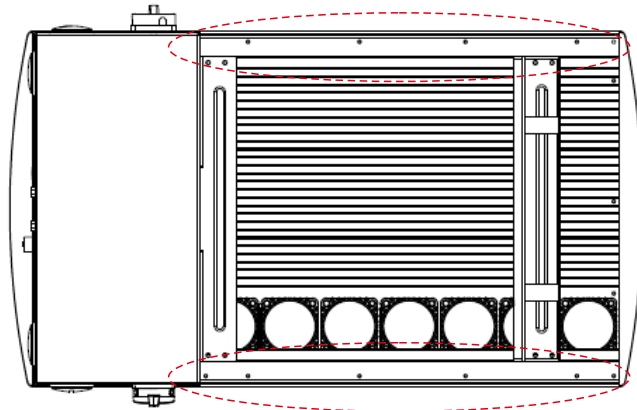

Figure 3.3 Handles shown circled in red are used to remove the inverter from the shipping box
2. Two people are required to remove the inverter from the shipping box. Use the handles integrated into the heat sink to remove the inverter from the box (see Figure 3.3).